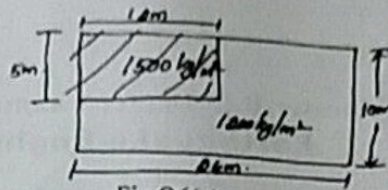

Fig.Q6(c)
c. A building having non-uniform distribution of mass is shown in Fig.Q6(a). Locate its Centre of mass. (06 Marks)